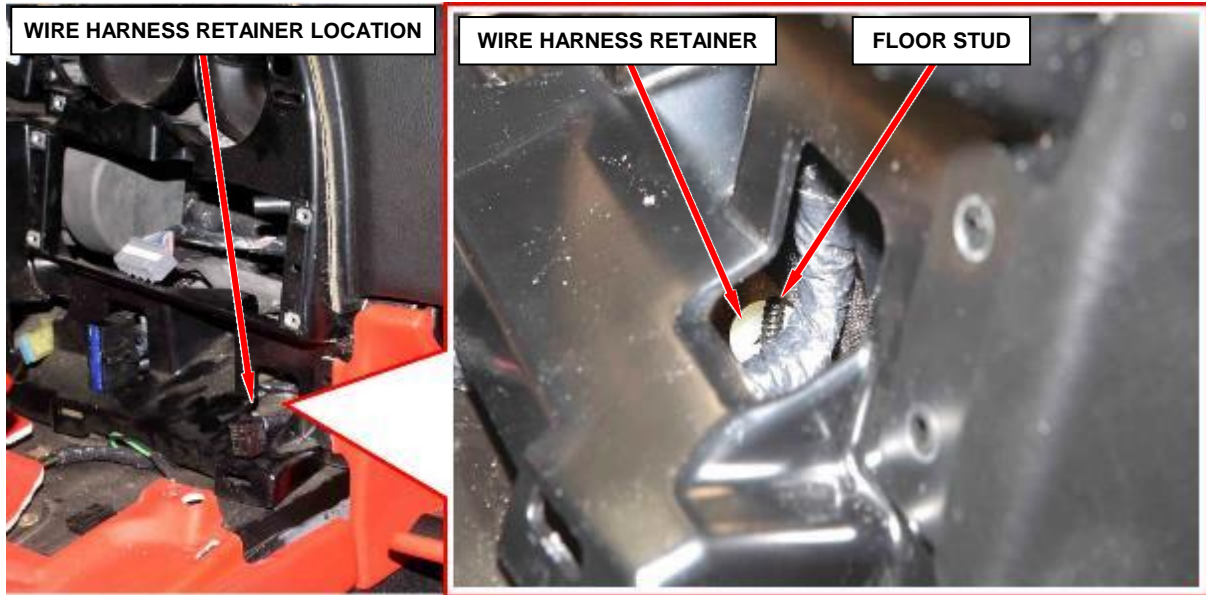

Figure 19 – Wire Harness Retainer
37. Release the wire harness retainer from the floor stud (Figure 19).
46. Secure the wire harness retainer to the floor stud (Figure 19).